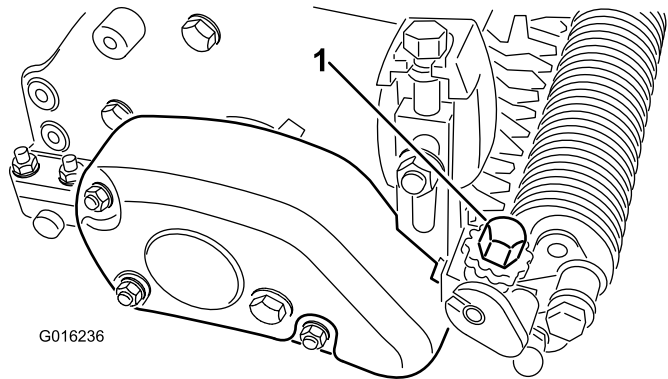

Figure 25
5. On 1 end of groomer shaft, measure the distance from the lowest tip of a groomer blade to work surface. Turn the groomer height adjusting knob (Figure 25) to raise or lower blade tip to the desired grooming height. Each notch on the adjusting knob is approximately equal to 0.08 mm (0.003 inch) of groomer depth.